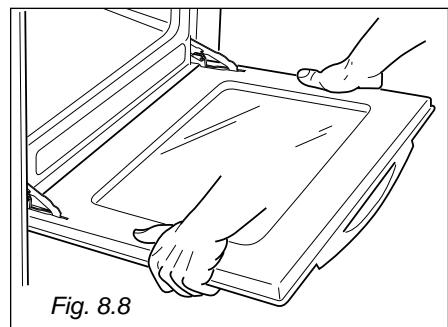

Fig. 8.8
- Hold the door as shown in fig. 8.8.